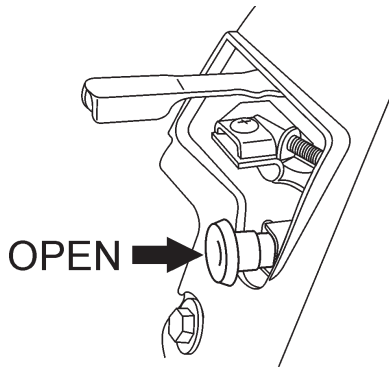

Figure 33. Choke Lever (Open Position)
4. If operating the SP2 saw in **cold weather conditions**, skip this step and proceed to step 5. Place the **Choke Lever** (Figure 33) in the **OPEN** position. Skip to step 6.